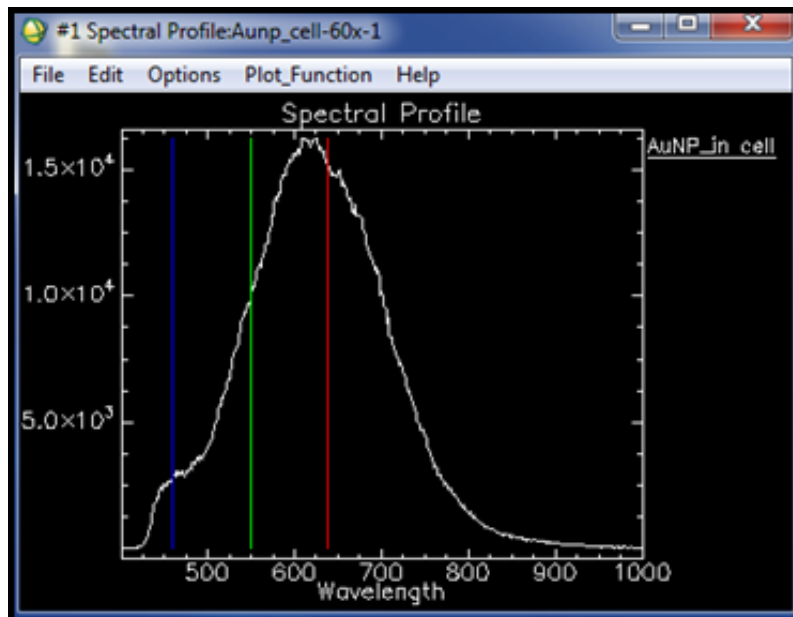

Figure 5.2c. Spectral profile of particles with label in plot key
- Move the crosshair cursor over the center of the particle (Figure 5.2c) and left click to obtain the endmember spectrum that will be used to classify the image.
- Now give the plot key label a new name (Refer to Section 4, Part 4 – Changing the Plot Key Parameters) that allows you to find it in the future. Here we chose AuNP_in cell (Figure 5.2c).